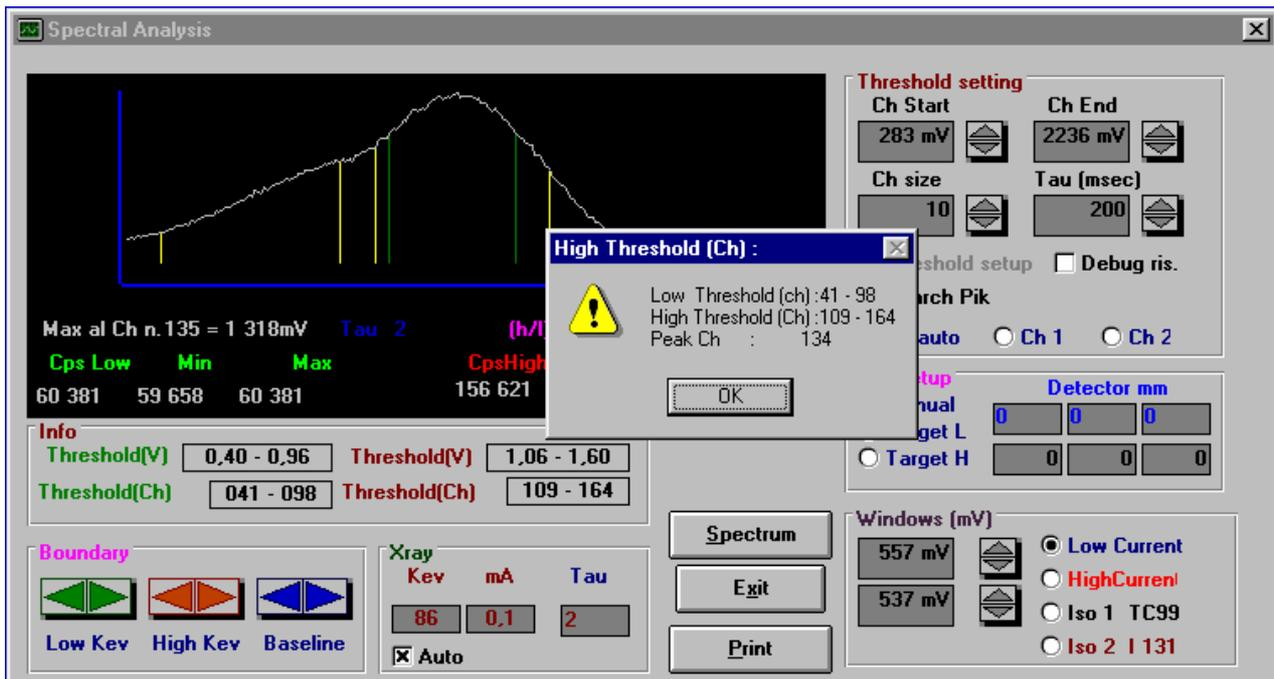

Figure II-2 : Spectrum after clicking on "Search Peak"
10. Click on [Search Peak] in the “Threshold setting” window to obtain Figure II-2. The “Low Threshold (Ch)” and respectively the “High Threshold (Ch)” in the “search peak” window have to be very close to the “Threshold (Ch)” in the “Info” window of the “Spectrum Analysis”. The Peak channel must be at 134 +/- 2 channels.